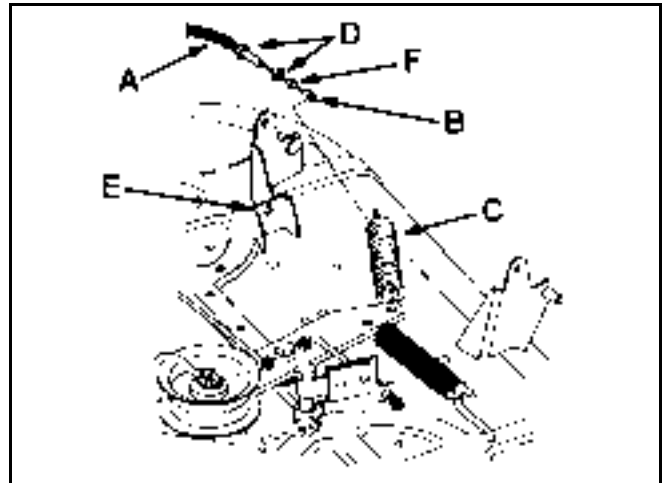

Figure 219
10. Remove the rubber wiper and first jam nut. Thread second jam nut onto the blade control (PTO) cable all the way. Route cable through slot in deck bracket and thread second jam nut onto cable (Figure 219).
11. Hook end of blade control (PTO) cable onto idler spring (Figure 219).